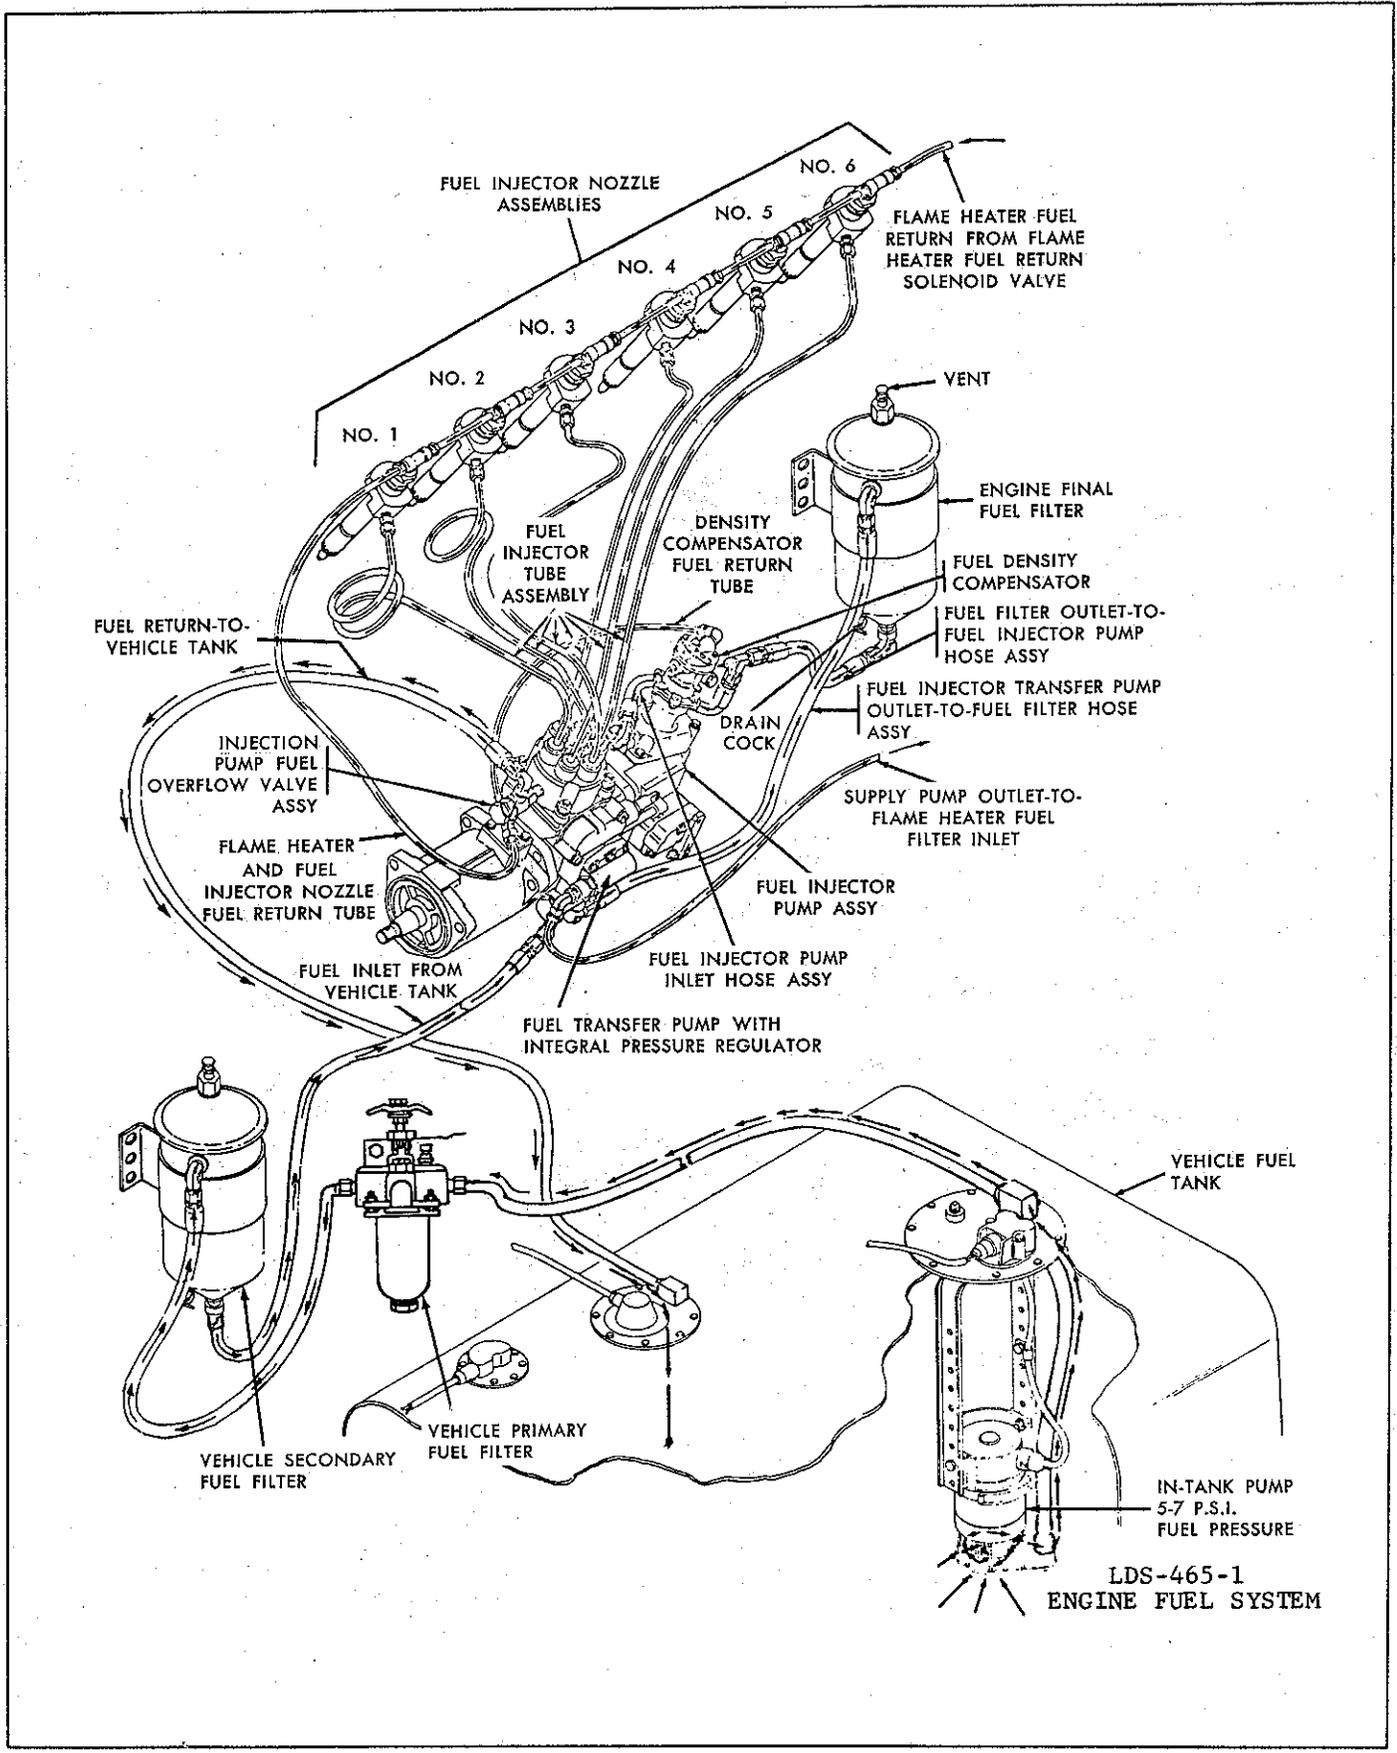

Figure 4. LDS-465-1 Engine Fuel System Diagram
f. Fuel-Injection System. (Figure 4) The LDS-465-1 engine is equipped with an American Bosch PSB-6A model fuel-injection pump of the single-plunger distributor-type design. A centrifugal advance device is provided between the injection pump and the injection pump mounting pad to provide an 8° advance in the start of fuel injection throughout the engine speed range. An overspeed governor is an integral part of the pump. A fuel sensory device is provided on the fuel-injection pump to automatically maintain constant full-rack power regardless of the type of mixtures of fuels being employed.